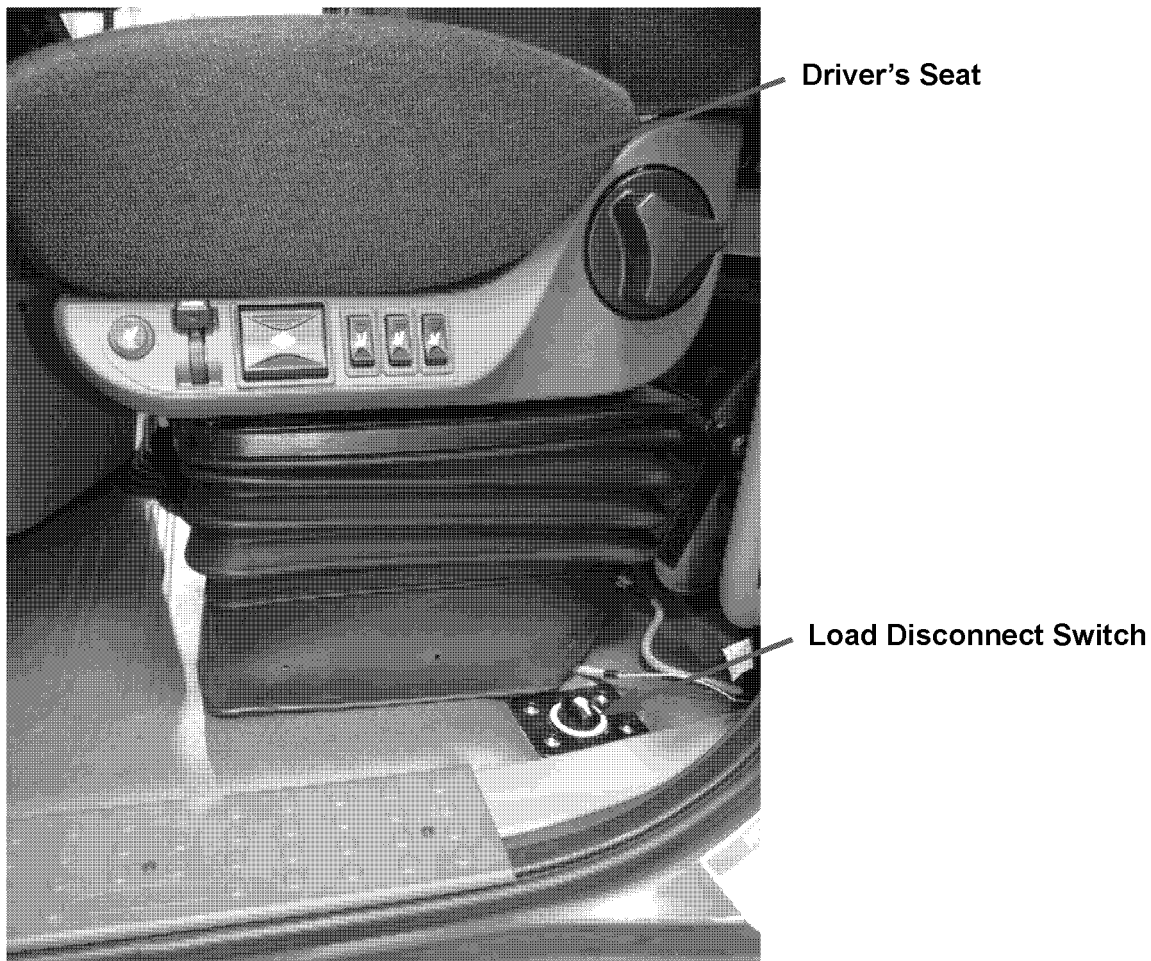

Figure 10-1: Location of the Load Disconnect Switch Inside the Cab
- on the floor of the cab to the left of the driver's seat (**Figure 10-1**)